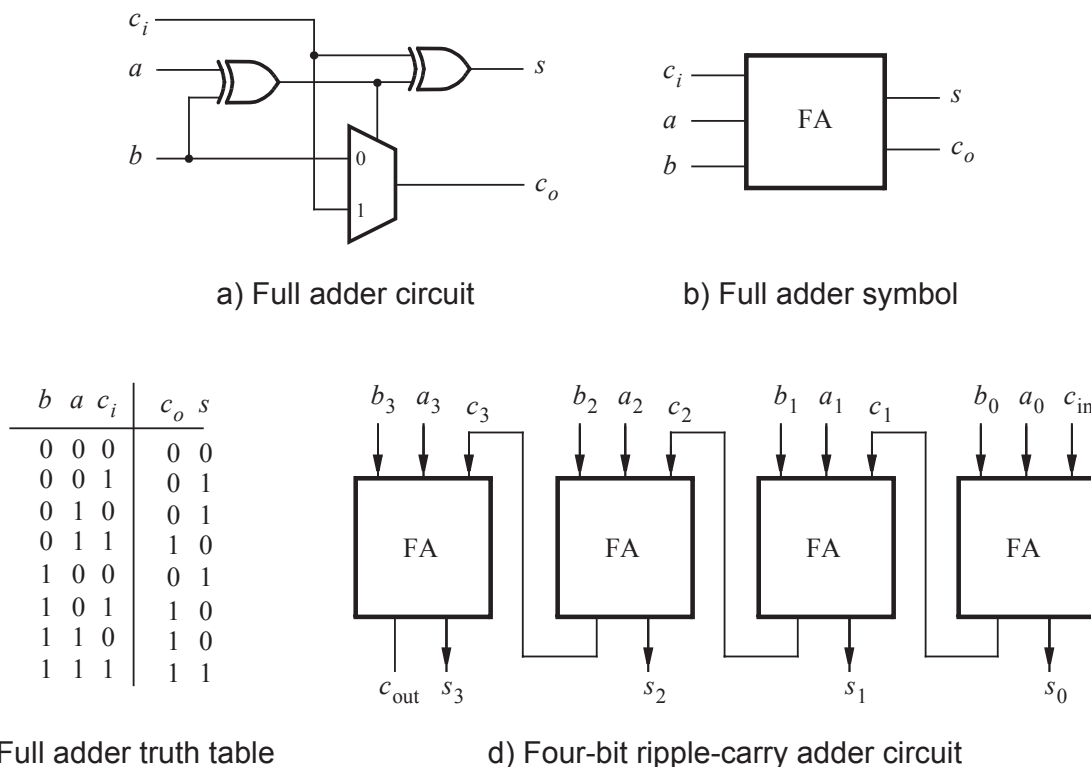

Figure 1: A ripple-carry adder circuit.
Figure 1(a) shows a circuit for a *full adder*, which has the inputs  $a$ ,  $b$ , and  $c_i$ , and produces the outputs  $s$  and  $c_o$ . Parts  $b$  and  $c$  of the figure show a circuit symbol and truth table for the full adder, which produces the two-bit binary sum  $c_o s = a + b + c_i$ . Please note that the  $+$  operator here means addition and not logic OR. Figure 1(d) shows how four instances of this full adder module can be used to design a circuit that adds two four-bit numbers. This type of circuit is called a *ripple-carry* adder, because of the way that the carry signals are passed from one full adder to the next. Build this circuit in Logisim, as described below. Be sure to use what you learned about hierarchy in Lab 2.
1. Draw a schematic showing your code structure with all wires, inputs and outputs labeled. Your schematic should resemble Figure 1(d), though it should also contain module and signal labels, and shows external connections to switches and LEDs (use *SW3-0* for *A*, *SW7-4* for *B* and *SW8* for *Cin*. Use *LEDR4-0* for the outputs). Be prepared to explain your approach to the TA as part of your preparation. **(PRELAB)**